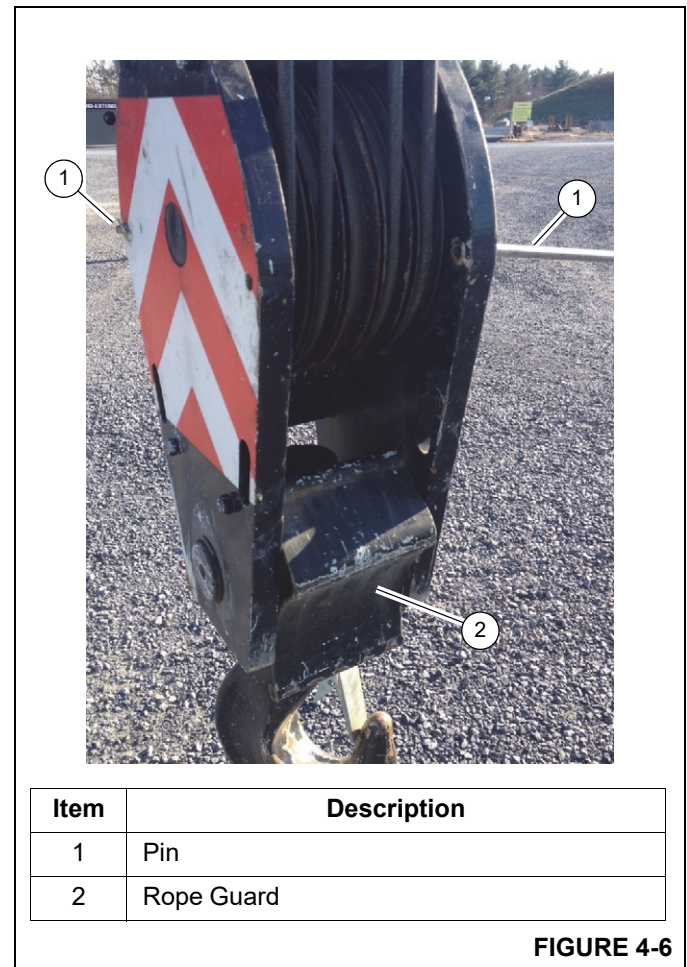

FIGURE 4-6
Within load and range chart limits and permissible line pull, multi-part lines allow the operator to raise a greater load than can be raised with a single part line. Various hoist rope reeving (part line) is possible with the boom nose and hook block (Figure 4-6 and Figure 4-11). Reeving should be done by a qualified rigger using standard rigging procedures.
To quick reeve the hook block without removing the wedge socket on end of hoist rope, remove the retaining clips from the two pins (1, Figure 4-6), then drop the two rope guards (2) to their lowered position.